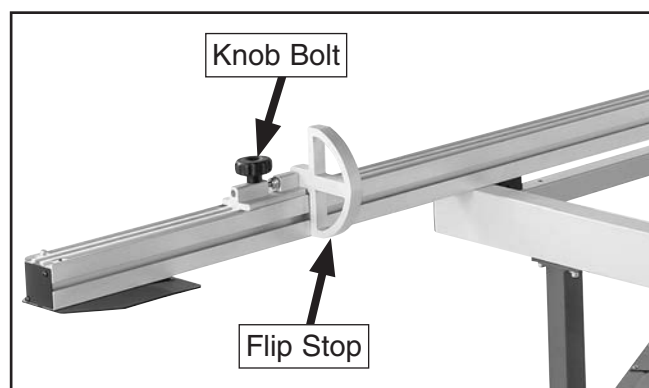

Figure 103. Location of flip stop and flip stop knob bolt.
4. Set flip stop to desired width of cut (see **Figure 103**) by loosening flip stop knob bolt, sliding flip stop until it aligns with desired mark on scale, and retightening knob bolt.